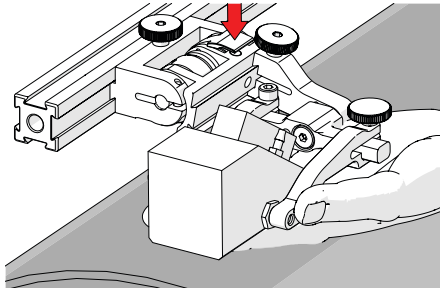

Fig. 37 - Lift and press latch button
3. Lift probe slightly and press latch button (Fig. 37) to apply spring pressure to the wedge.